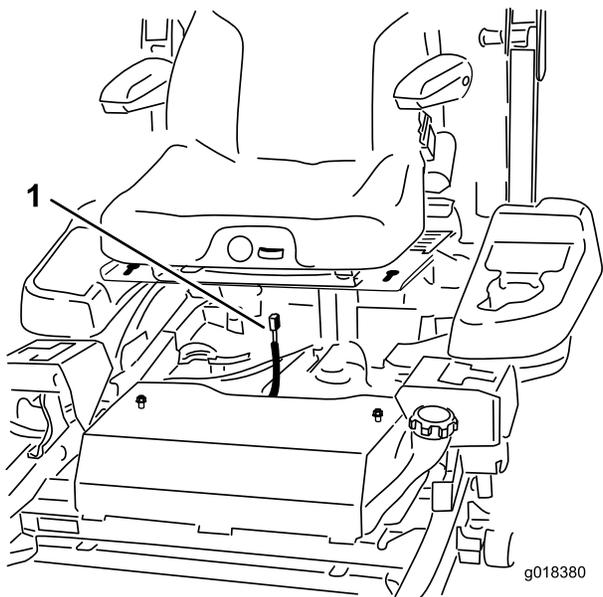

Figure 3
4. Plug the harness connector into the seat switch located under the seat towards the front (Figure 3).